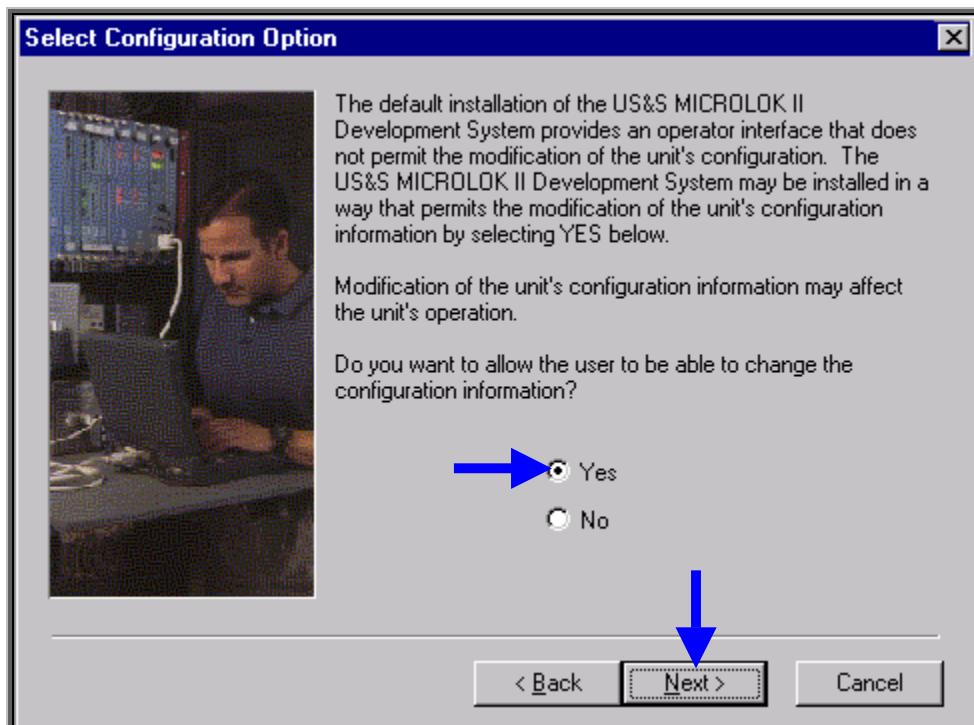

Figure-4.3
- ❖ This will present another dialog box as shown in Figure-4.3.